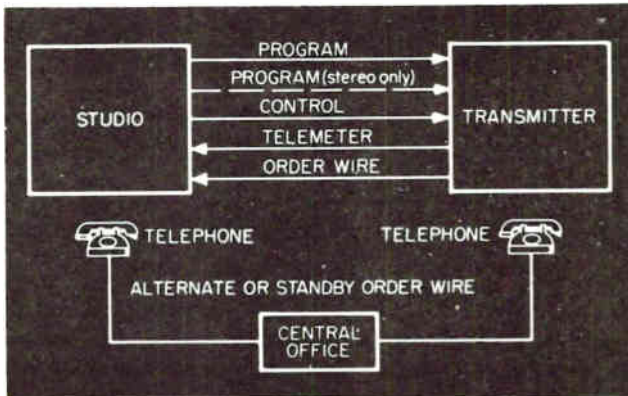

Fig. 1. Remote Control Circuit Requirements.
Four or five circuits are usually required from the transmitter site to the remote control point. As shown in Fig. 1, these include (1) a control channel, (2) a telemetering channel, (3) an order wire, (4) a program circuit, and, if